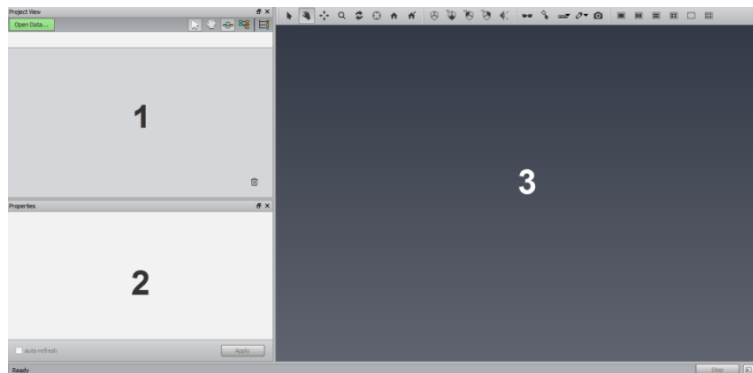

Figure 22.59: Amira user interface
Amira user interface is divided into three major regions: The Project View (1) contains folders where data and modules will appear. The Properties area (2) displays interface elements (ports) associated with Amira objects. The 3D viewer window (3) displays visualization results (see Figure 22.59).